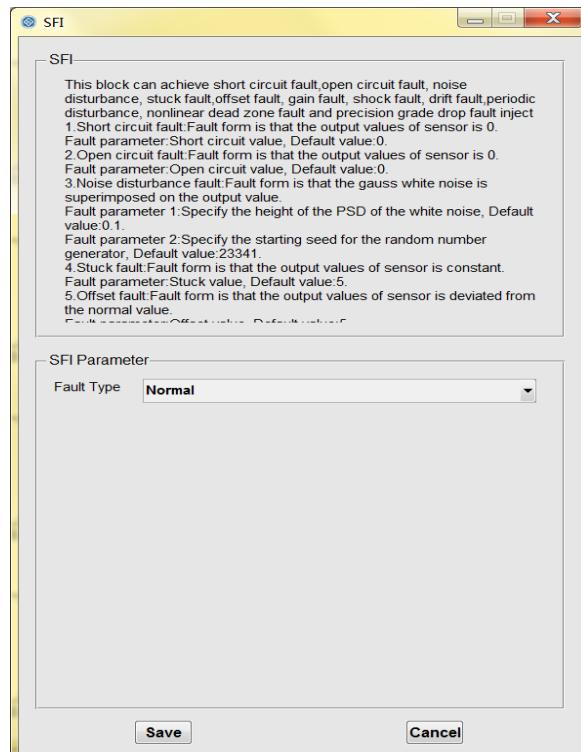
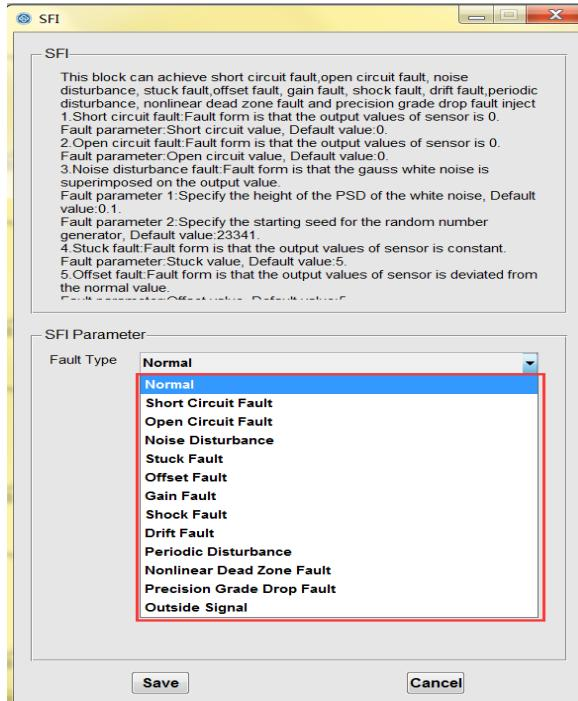
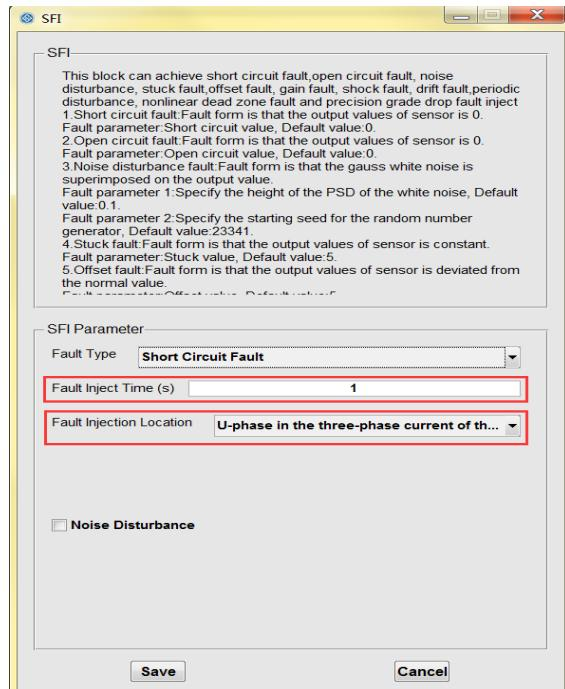

Fig. 25 Sensor fault injection parameter setting
Fig. 26 Sensor fault type selection
Fig. 34 Fault injection time setting
Click the ‘Sensor Fault Injection Setting’ option, pop up the Sensor Fault Injection (SFI) parameter setting interface as shown in Fig. 25. Click the ‘drop-down’ button next to the right of the ‘Fault Type’. The drop-down list box displays 13 sensor fault type options, including normal mode (fault-free injection) and 12 sensor faults, as shown in Fig. 26.
- 2) After selecting the fault to be injected, the user also needs to enter the fault injection time and fault injection parameter setting. Take the ‘Short Circuit Fault’ of the sensor as an example, if ‘Short Circuit Fault’ selected, fault type selection will pop up the ‘Fault inject Time’ column menu and ‘Fault Injection Location’ drop-down menu as shown in Fig. 26, the users need to enter the fault injection time (in seconds) and select the fault injection location in the column. As shown in the red box in Fig. 34, fault injection time is 1 second and the fault injection position is ‘U-phase in the three-phase current of the inverter’.